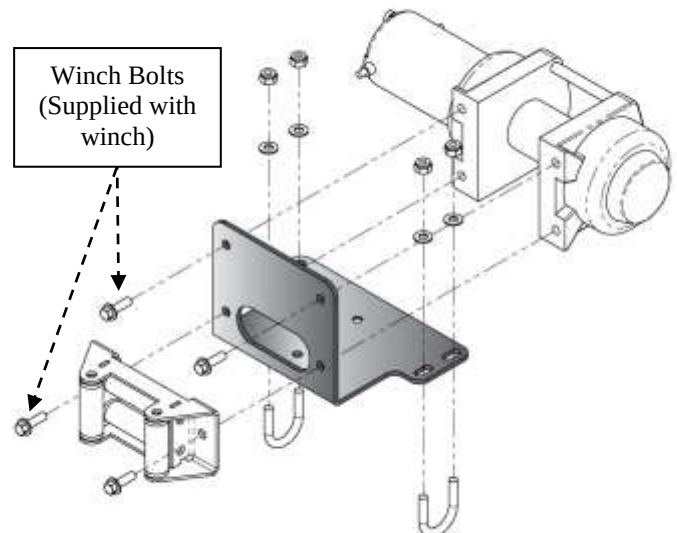

Figure 4 Assemble Winch to Mount
3. Install the winch to the mount plate using the longer M8 bolts (B) provided with the mount for the rear winch holes. (See Figure 4)
*"Figure 4 " Winch Install
5. Attach the bottom of your winch to the mount by running the hardware thru your fairlead, the mount plate and into your winch "Figure 4".